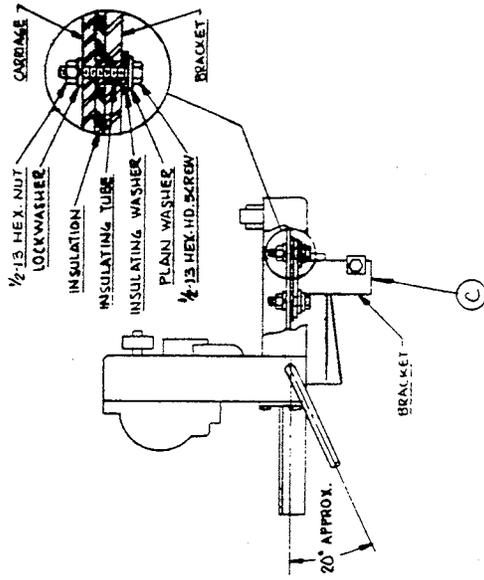

Fig. 3
- C. Install the head mounting bracket (C) which is supplied with the wire feeder, to the head lift plate per Fig. 3 using the hardware and insulation supplied. The head mount is to be electrically isolated from the carriage frame.